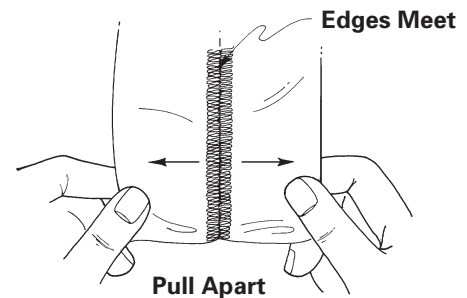

Fig. 19-13
3. Once the seam is complete, open the fabric layers and gently pull the seam flat. (Fig. 19-13)